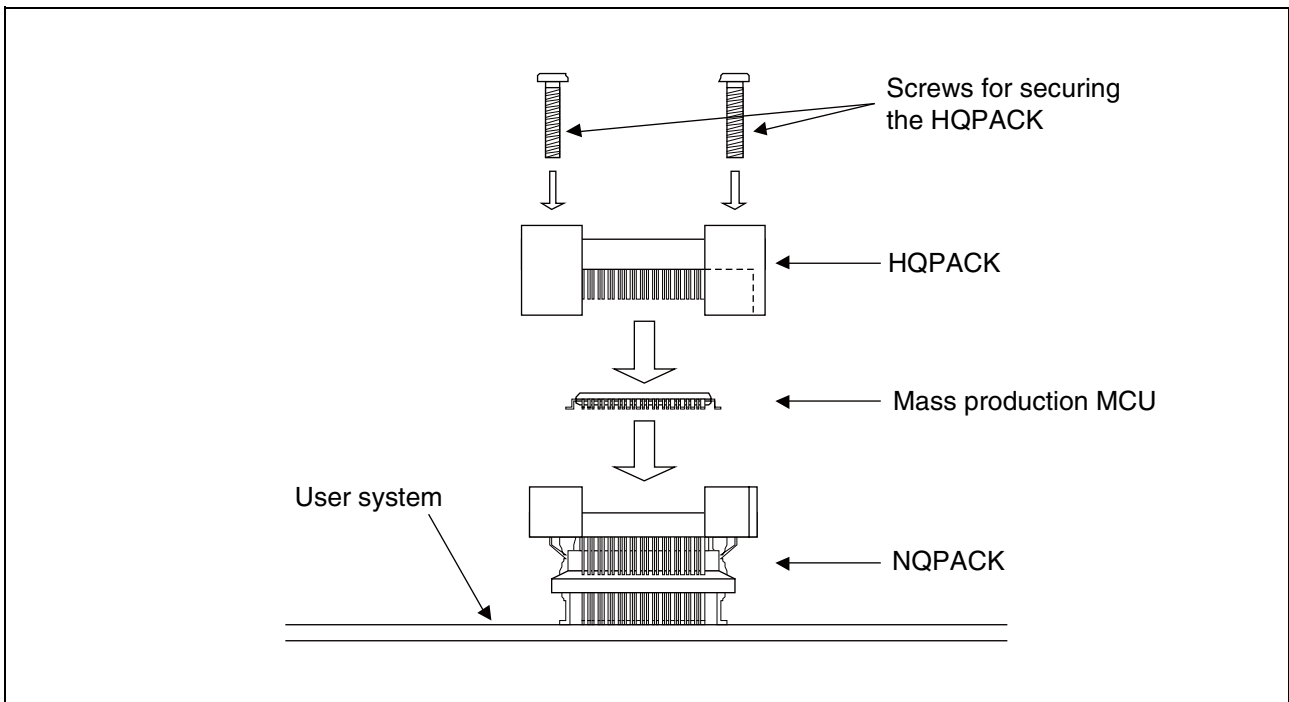

Figure 5 Mounting a mass production MCU
2. Confirm that the mass production MCU is correctly mounted on the NQPACK, and then align the index mark (the only corner with an angle cut-out) of the HQPACK with the index mark of the NQPACK, and insert it (See "Figure 5").